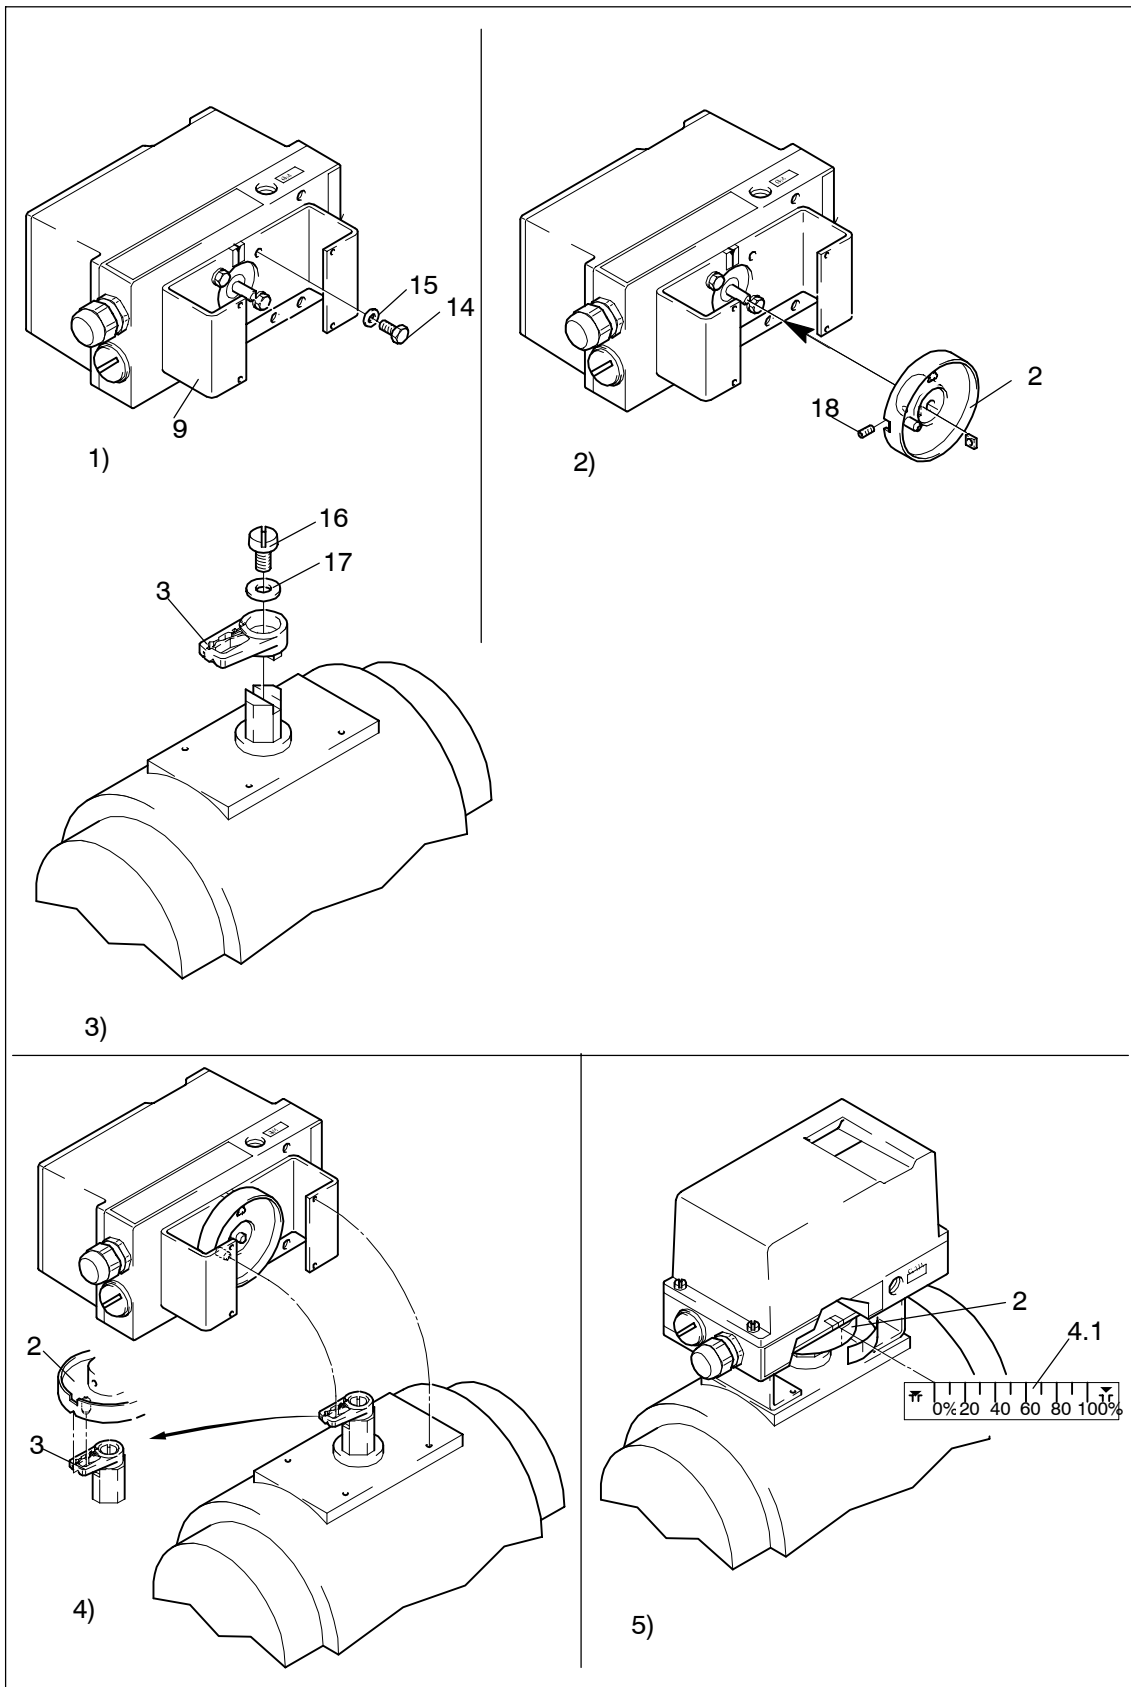

Figure 27 Assembly procedure (part-turn actuator)
The *scope of delivery of the mounting kit "part-turn actuator"* contains (ser. no. see figures 27 and 28):
3.3.6 Assembly procedure (see figure 27 and figure 28)